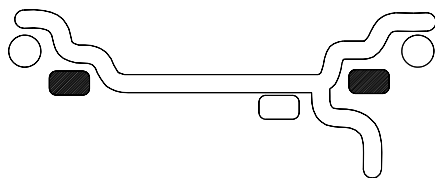

Figure 17 ALU 1
C. ALUMINUM MODES. Balancing using a combination of hammer-on and adhesive weights as shown in Figures 17 thru 21.